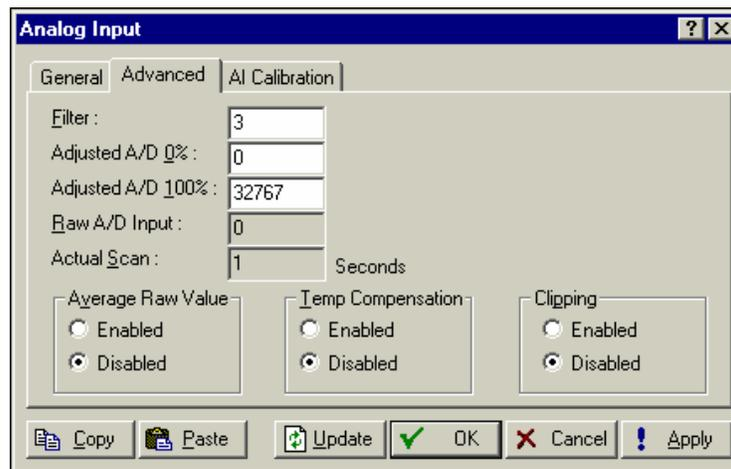

Figure 6-15. Analog Input – Advanced
5. Enter **32767** in the **Adjusted A/D 100%** field. Refer to Figure 6-15.